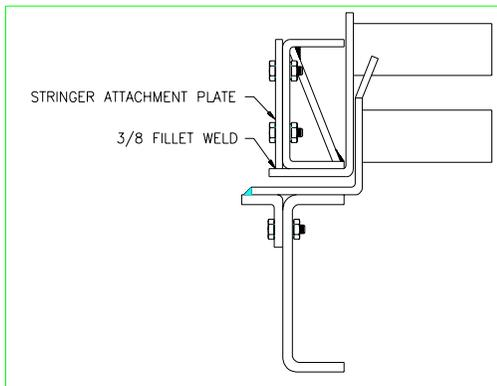

Figure 13: Stringer Attachment Plate
A. For bolt-on applications a stringer plate must be welded to the upper mount. This allows the upper mount to be bolted to the long member (see Figure 13). Drill and bolt the stringer attachment plate to the long member. It may be necessary to raise the bed to complete bolting the upper mount.